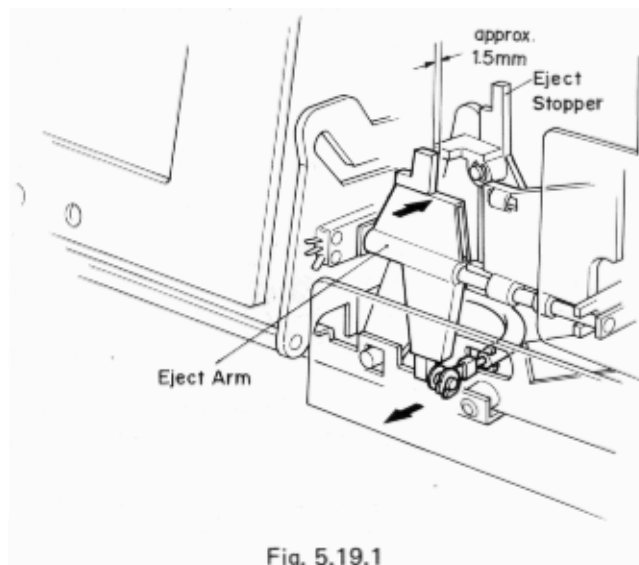

Fig. 5.19.1
(1) Referring to Fig. 5.19.1, insert a 1.5 mm spacer between the Eject Arm and Eject Stopper by turning the Eject Arm in the illustrated direction, then set the N-481 in playback mode.